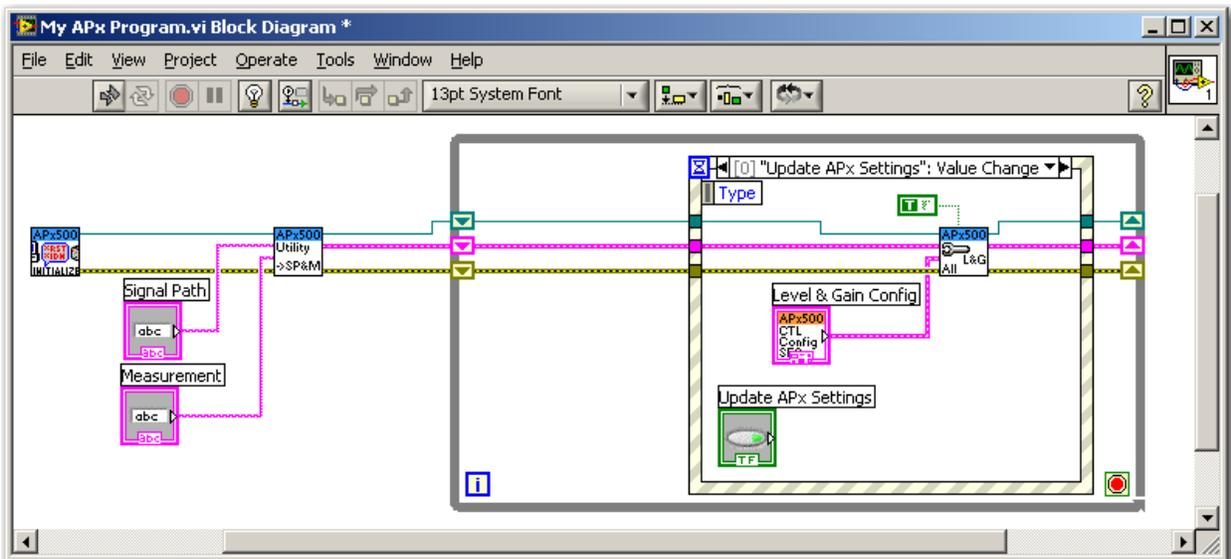

Figure 37
4. Add a While loop around the event case, change its input tunnels to shift registers, and then wire and rearrange the shift registers as shown in Figure 37.